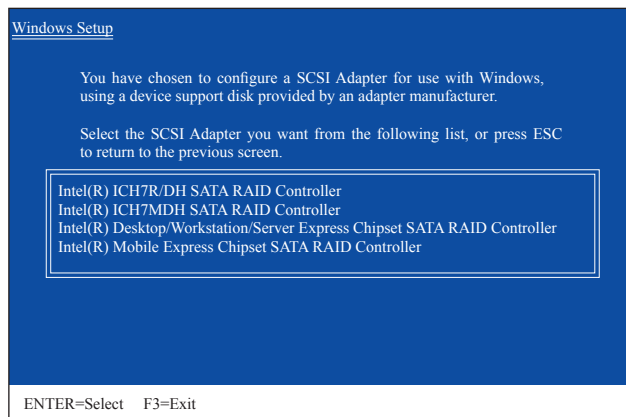
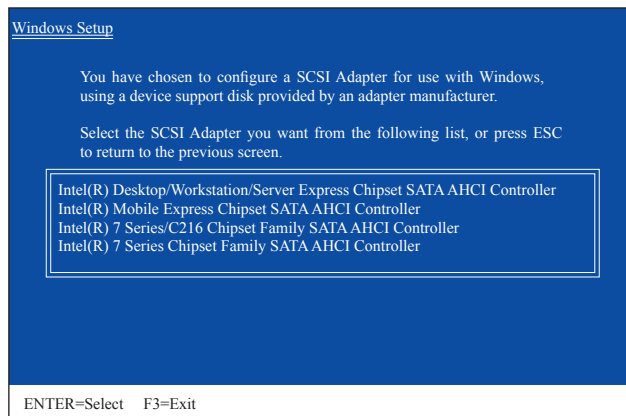

Figure 2
Figure 3
Insert the floppy disk containing the SATA RAID/AHCI driver and press <Enter>. Then a controller menu similar to that in Figure 2 will appear. Select **Intel(R) Desktop/Workstation/Server Express Chipset SATA RAID Controller** and press <Enter>. For AHCI mode, use the up arrow key on the keyboard to scroll to the **Intel(R) 7 Series/ C216 Chipset Family SATA AHCI Controller** item and press <Enter>.(Figure 3)